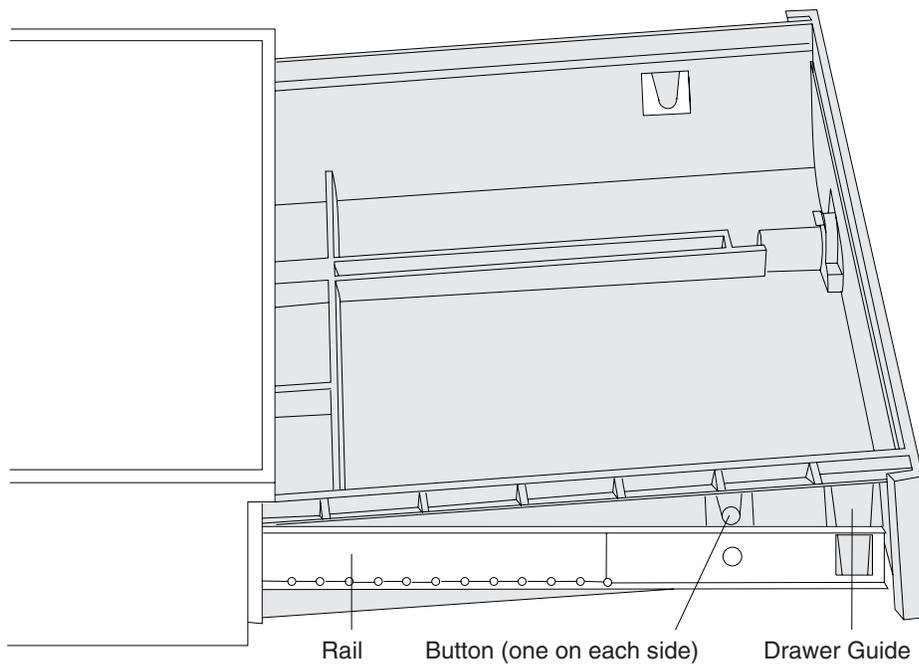

Figure 2-6. Removing and Replacing the Drawer
- 7 Position the rear of the drawer into slides such that the drawer guide on each side of the drawer aligns with the corresponding opening in each slide. See Figure 2-6.